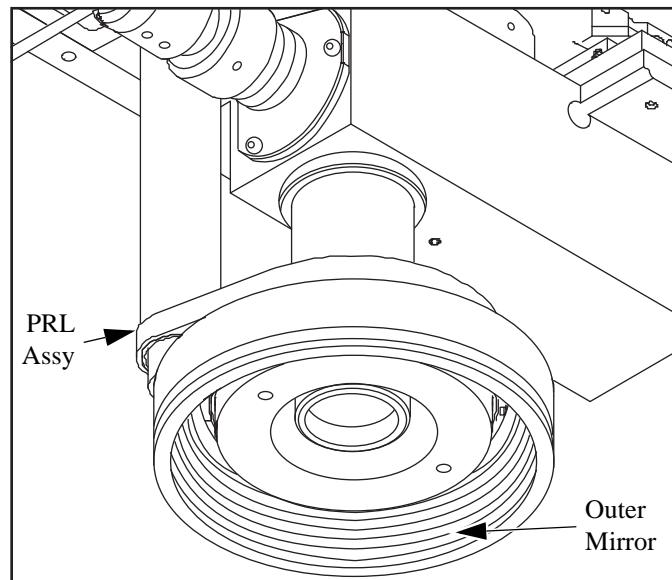

Figure 6-8 Cleaning the Programmable Ring Light
3. Use a clean, soft, lint-free cloth moistened with lens cleaner to clean the outer mirror (see Figure 6-8).